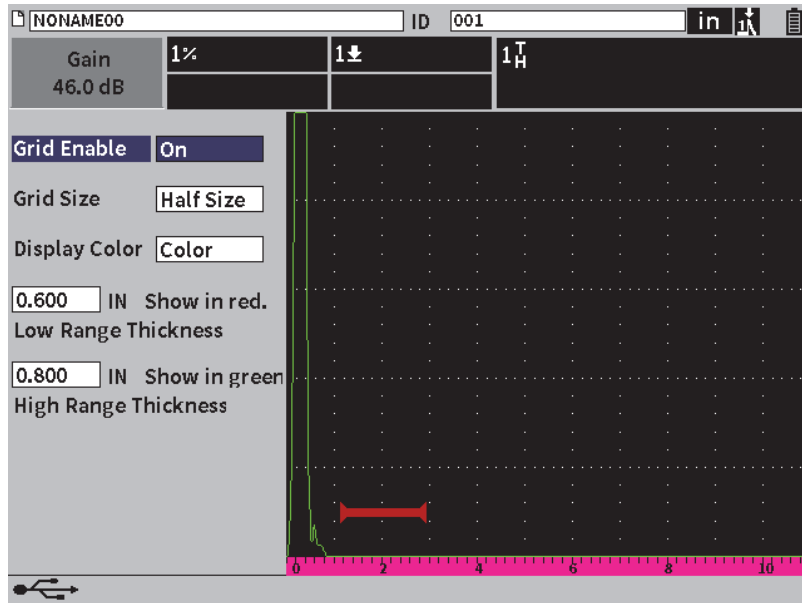

Figure 9-25 Grid dialog box
4. Press the Enter key to open the **Grid** dialog box (see Figure 9-25 on page 151).